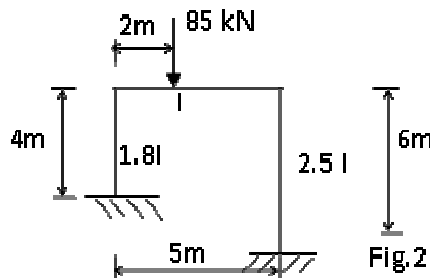

Fig 2
3. Analyse the frame shown in **Fig.2** using Slope Deflection method, and draw bending moment diagrams. Draw elastic curve.
4. Analyse the frame shown in **Fig.2** using Moment distribution method, and draw shear force and bending moment diagrams. Draw elastic curve.